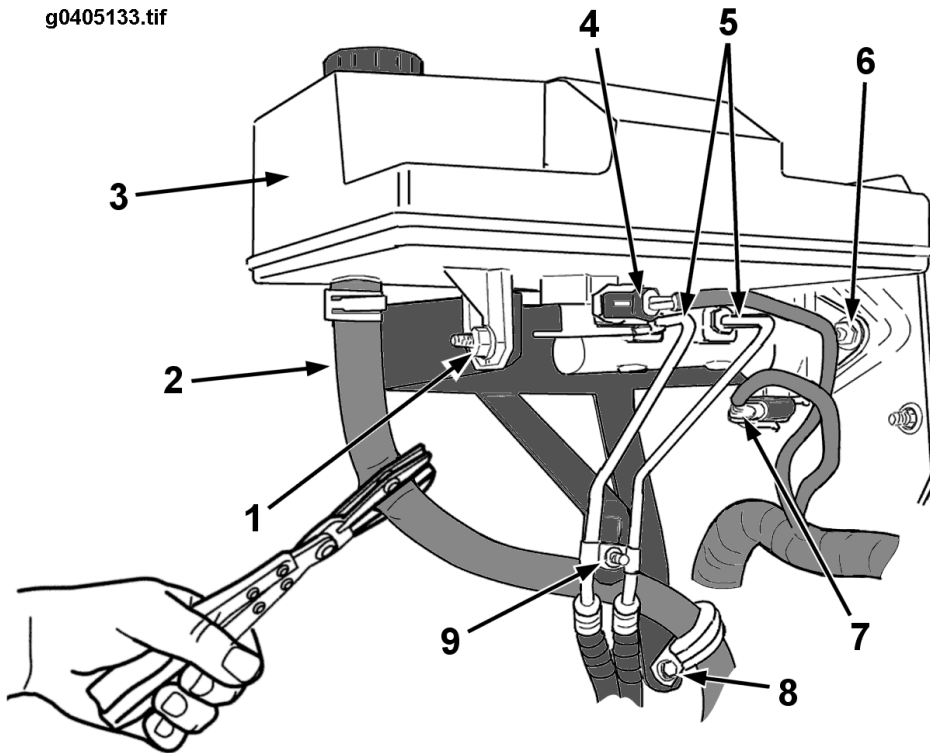

Figure 33 Low Pressure Hose Clamped at the Master Cylinder Reservoir
7. Disconnect the electrical connections from the brake light switch on the MC, and the fluid level switch on the MC reservoir. Refer to FIGURE 33.
10. Use a clamp to pinch the low pressure hose near the outlet of the MC reservoir, being careful not to damage the reservoir outlet. Refer to FIGURE 33.
16. Unbolt the MC reservoir from the mounting bracket (1 nut). Refer to FIGURE 33.
8. Secure the low pressure hose to the MC mounting bracket using the clamp removed earlier. Refer to FIGURE 33 (See Figure 33, page 68).
9. Secure the primary and secondary brake tubes to the MC mounting bracket using the clamp removed earlier. Refer to FIGURE 33 (See Figure 33, page 68).
2. Disconnect the electrical connection to the brake light switch. Refer to FIGURE 33 (See Figure 33, page 68).
7. Disconnect the electrical connection from the fluid level switch on the MC reservoir. Refer to FIGURE 33 (See Figure 33, page 68).
9. Use a clamp to pinch the low pressure hose near the outlet of the MC reservoir, being careful not to damage the reservoir outlet. Refer to FIGURE 33 (See Figure 33, page 68).